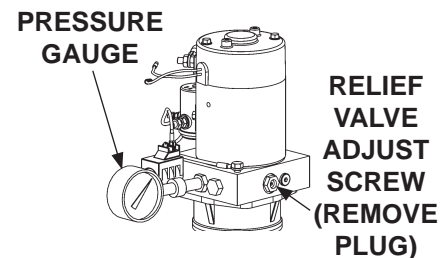

FIG. 50-2
9. With platform on the ground, remove the pressure hose and fitting from the pump and replace it with a 0-4000 PSI pressure gauge. Hold the control switch in the "raise" position. Adjust the relief valve on the side of the pump until the gauge shows 3250 PSI (FIG. 50-2). Remove gauge and reinstall pressure hose.